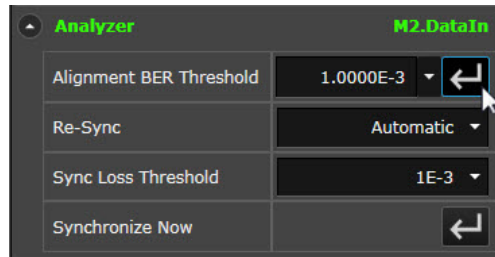

Figure 27 Alignment BER Threshold
- 15 Click on the **Alignment BER Threshold** button to synchronize and align the error analyzer as shown in Figure 27 on page -55.